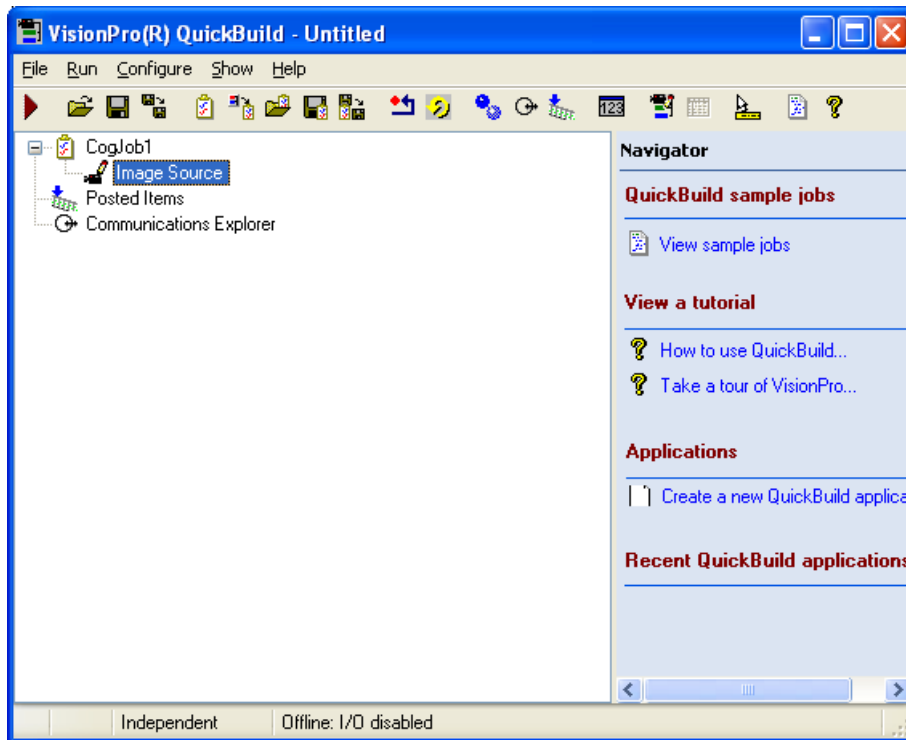

Figure 3.7: VisionPro QuickBuild start screen
2. Open the QuickBuild tool (Start -> All Programs -> Cognex -> VisionPro -> VisionPro (R) Quick Build) and double-click on ImageSource (see Fig. 3.7).